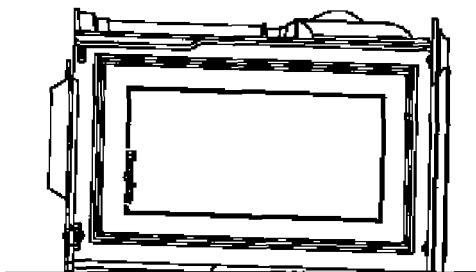

Fig. 1
2. Carefully lay the stove down on its rear side (Fig. 1).